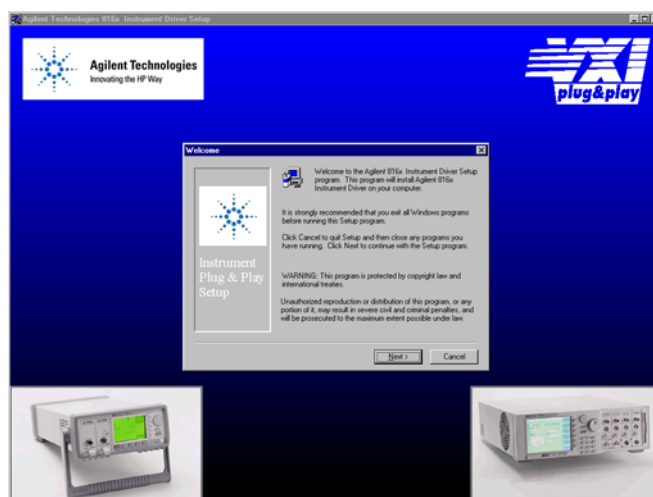

Figure 10 Welcome Screen
- 5 You see a message, as shown in Figure 10 , advising you to close the programs that you have running.